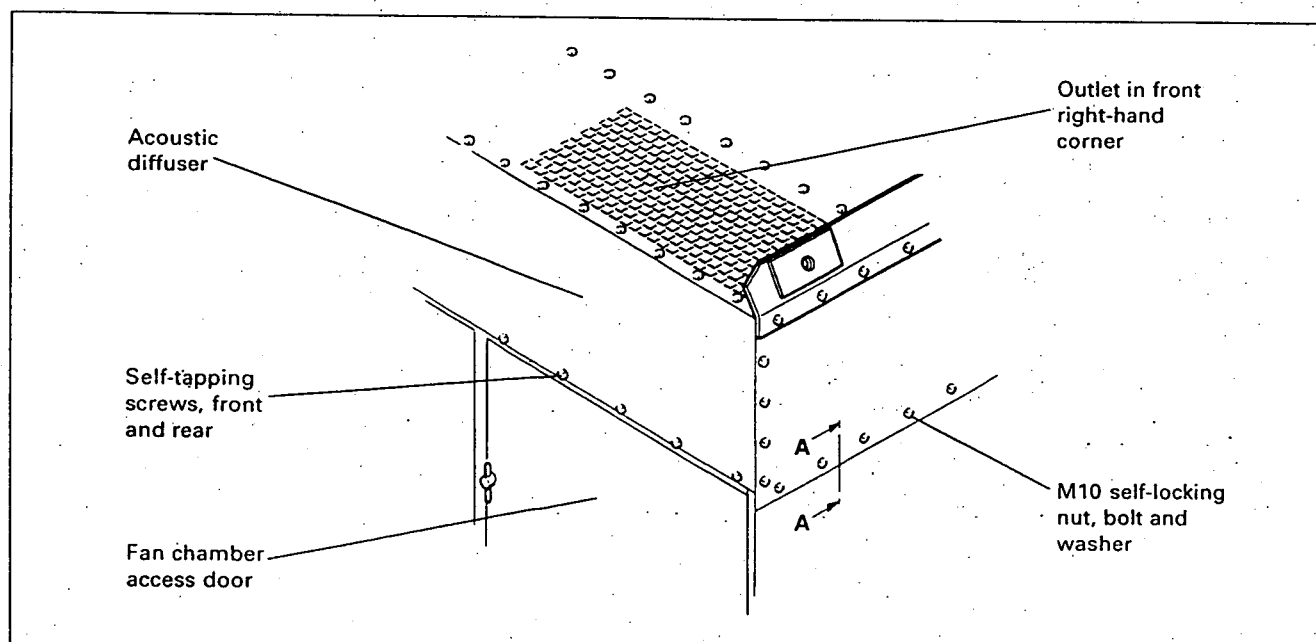

Fig. 15 Fitting of UMA 750 acoustic diffuser
- 5 Using a four-point lift, lift the acoustic diffuser into position on top of the fan section so that the diffuser outlet is in the front, right-hand corner of the top plate (see Fig. 15).